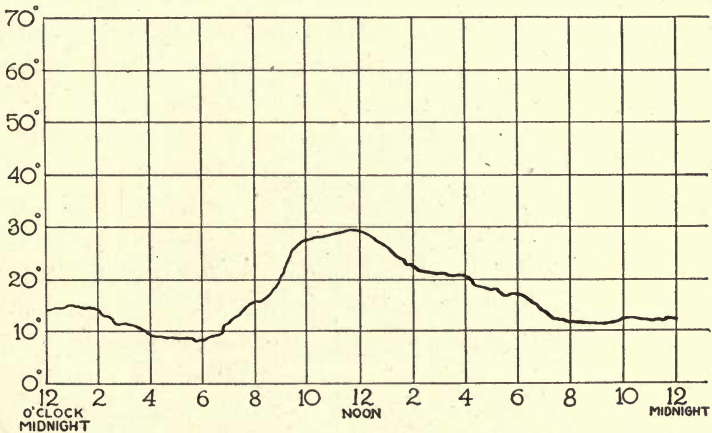

FIG. 133.—Temperature Curve Showing Variation in Temperature.
**Thermograph.** — Figure 133 shows a temperature curve or a record of the variation in temperature of a given